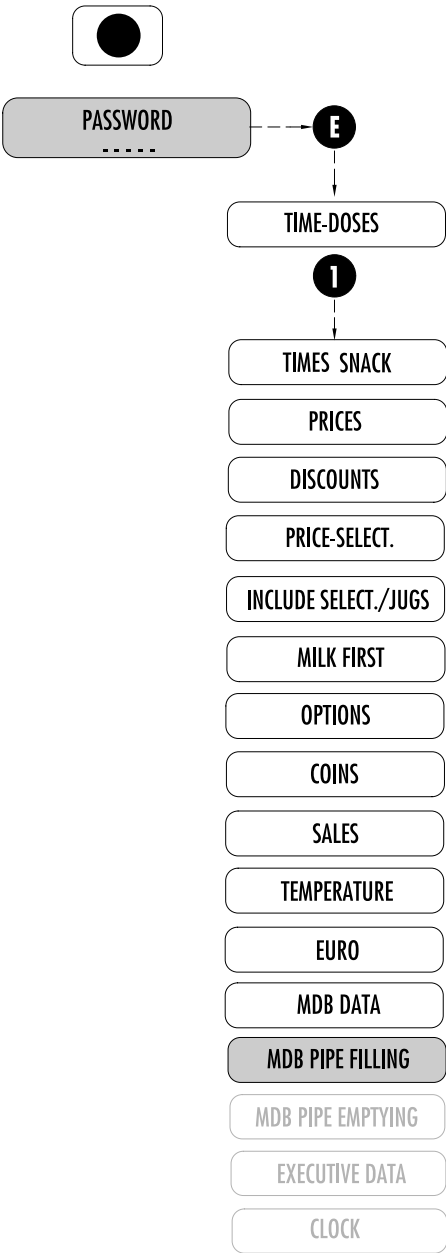

Fig. 7.17
7.2.14 MDB PIPE FILLING (Fig. 7.17)